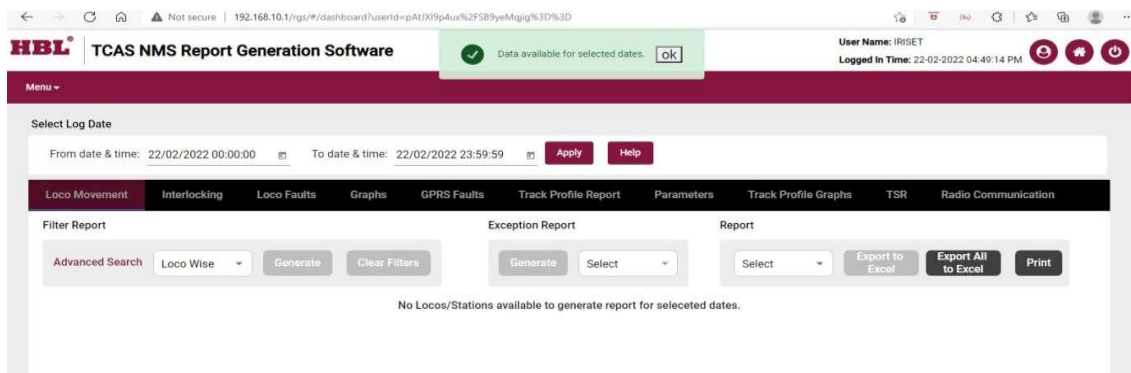

Fig .12 Availability of data screen.
- 3.If the database will have the information for the selected date a prompt message will confirm for the same as shown in fig 12.